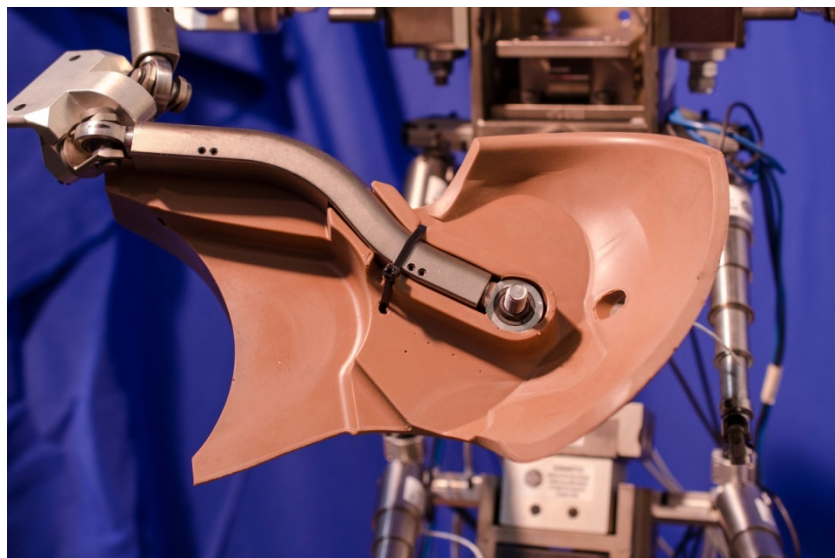

Figure 6-40. Install clavicle into underside of shoulder cover
6.2.2.31 Place the Left Clavicle Assembly (472-3850) into the underside of the Left Shoulder Cover (472-3895-1) (Figure 6-40). Use a tie wrap (approximately 4 mm wide and 210 mm long) to wrap around the clavicle through the shoulder cover. Insert the Modified M8 Bolt (472-3891) through the Shoulder Cover Bushing (472-3890).